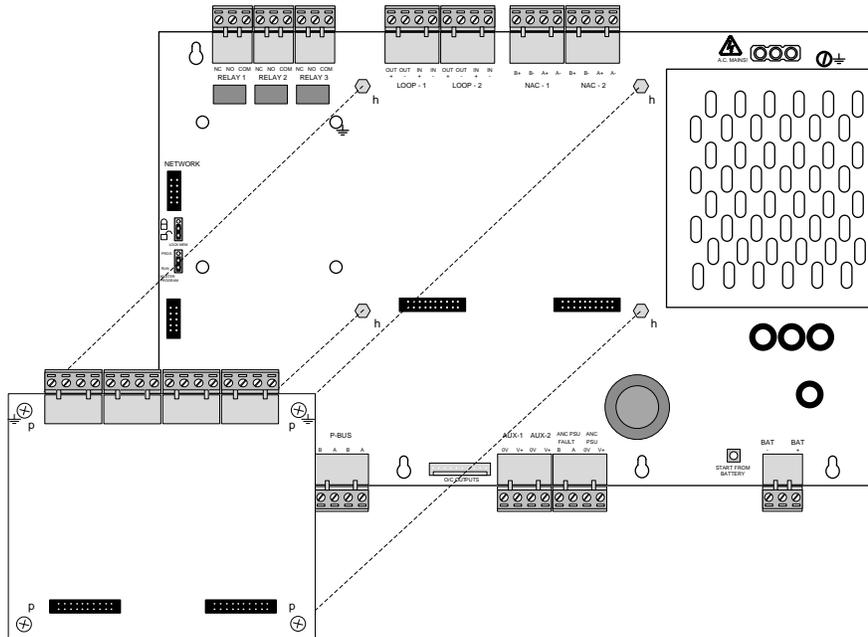

Figure 29 - NX-EM-LPD or NX-NAC Module Mounting to NX-ACS-2L
The NX-EM-LPD and NX-EM-NAC modules are supplied with four (4) metal hexagon spacers [h] and four (4) screws [p]. Insert and tighten the four (4) metal hexagon spacers [h] to the NX-FACP base card (see figure 29).
Position the module onto the metal hexagon spacers, while plugging the module into the two (2) 20-pin connectors on the NX-FACP base card and secure with the four (4) supplied screws [p] (see figure 29). It is critical that these screws are tightly secured as the two top screws are required for the earth ground connection to the NX-EM-LPD or NX-EM-NAC module.
Remove power (AC and battery) from the system. Remove all field wiring terminal blocks from the NX-EM-LPD or NX-EM-NAC module. Remove the four (4) screws securing the module to the NX-CTL base card and remove the module. Position the new module onto the metal hexagon spacers, while plugging the module into the two (2) 20-pin connectors on the NX-FACP base card and secure with the four (4) removed screws (see figure 29). It is critical that these screws are tightly secured as the two top screws are required for the earth ground connection to the NX-EM-LPD or NX-EM-NAC module.